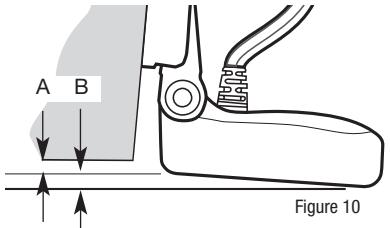

Figure 10
5. If you have the correct angle set on the transducer, yet lose a bottom reading at high speed, adjust the transducer to a lower depth in the water. If you reach the top of the screw slots and continue to lack high speed performance, increase the angle of the transducer by lowering the back of the transducer in increments of $\frac{1}{8}$ " (4 mm); see Figure 10.